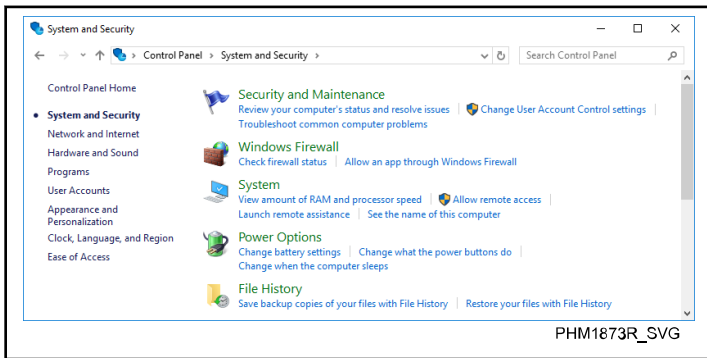

Figure 40
2. From the "Control Panel" window, click **System and Security**. The "System and Security" window appears. Refer to *Figure 40*.